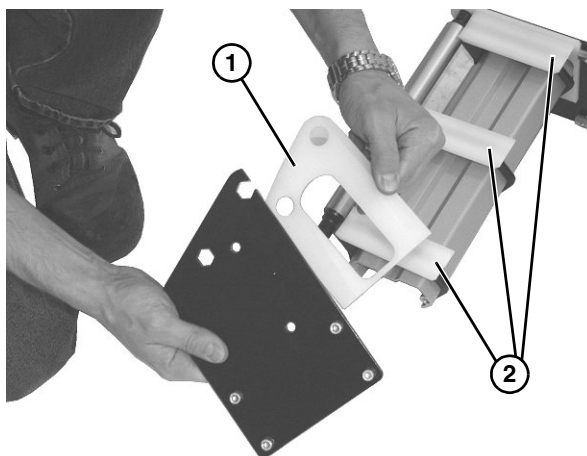

Figure 51
11. Check idler terminal assembly on each side (**Figure 51, item 1**) for wear. If worn, replace.
12. Remove and replace wear guides (**Figure 51, item 2**) if worn. When replacing, secure onto pins on each support plate.